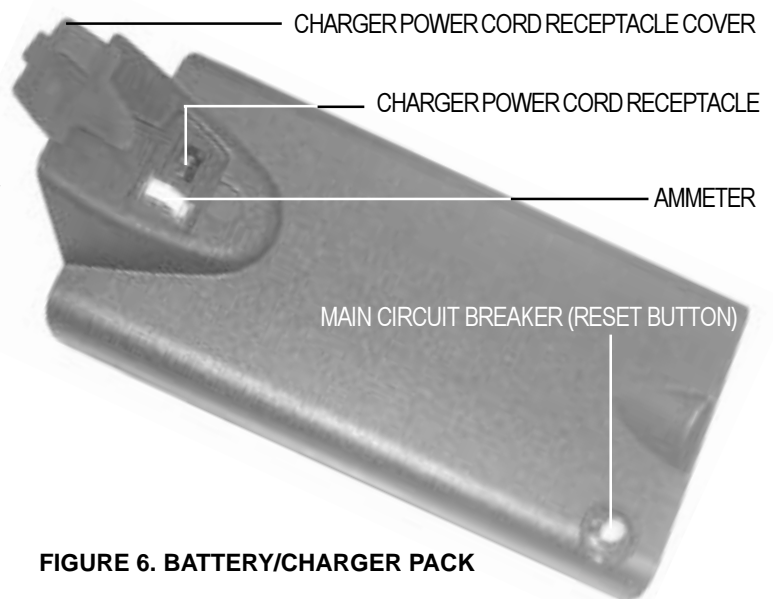

FIGURE 6. BATTERY/CHARGER PACK
The scooter is equipped with an easy to remove self-contained battery/charger pack. The pack contains everything necessary to charge and monitor the charging of the Revo Sport's batteries, including the charger power cord receptacle, the ammeter, the main circuit breaker (reset button), and the batteries. See figure 6.
When the voltage in your Revo Sport's batteries becomes low or the scooter is heavily strained because of excessive loads or steep inclines, the main circuit breaker may trip to protect the motor and electronics from damage. See figure 6.
7. Replace the charger power cord receptacle cover. See figure 6.